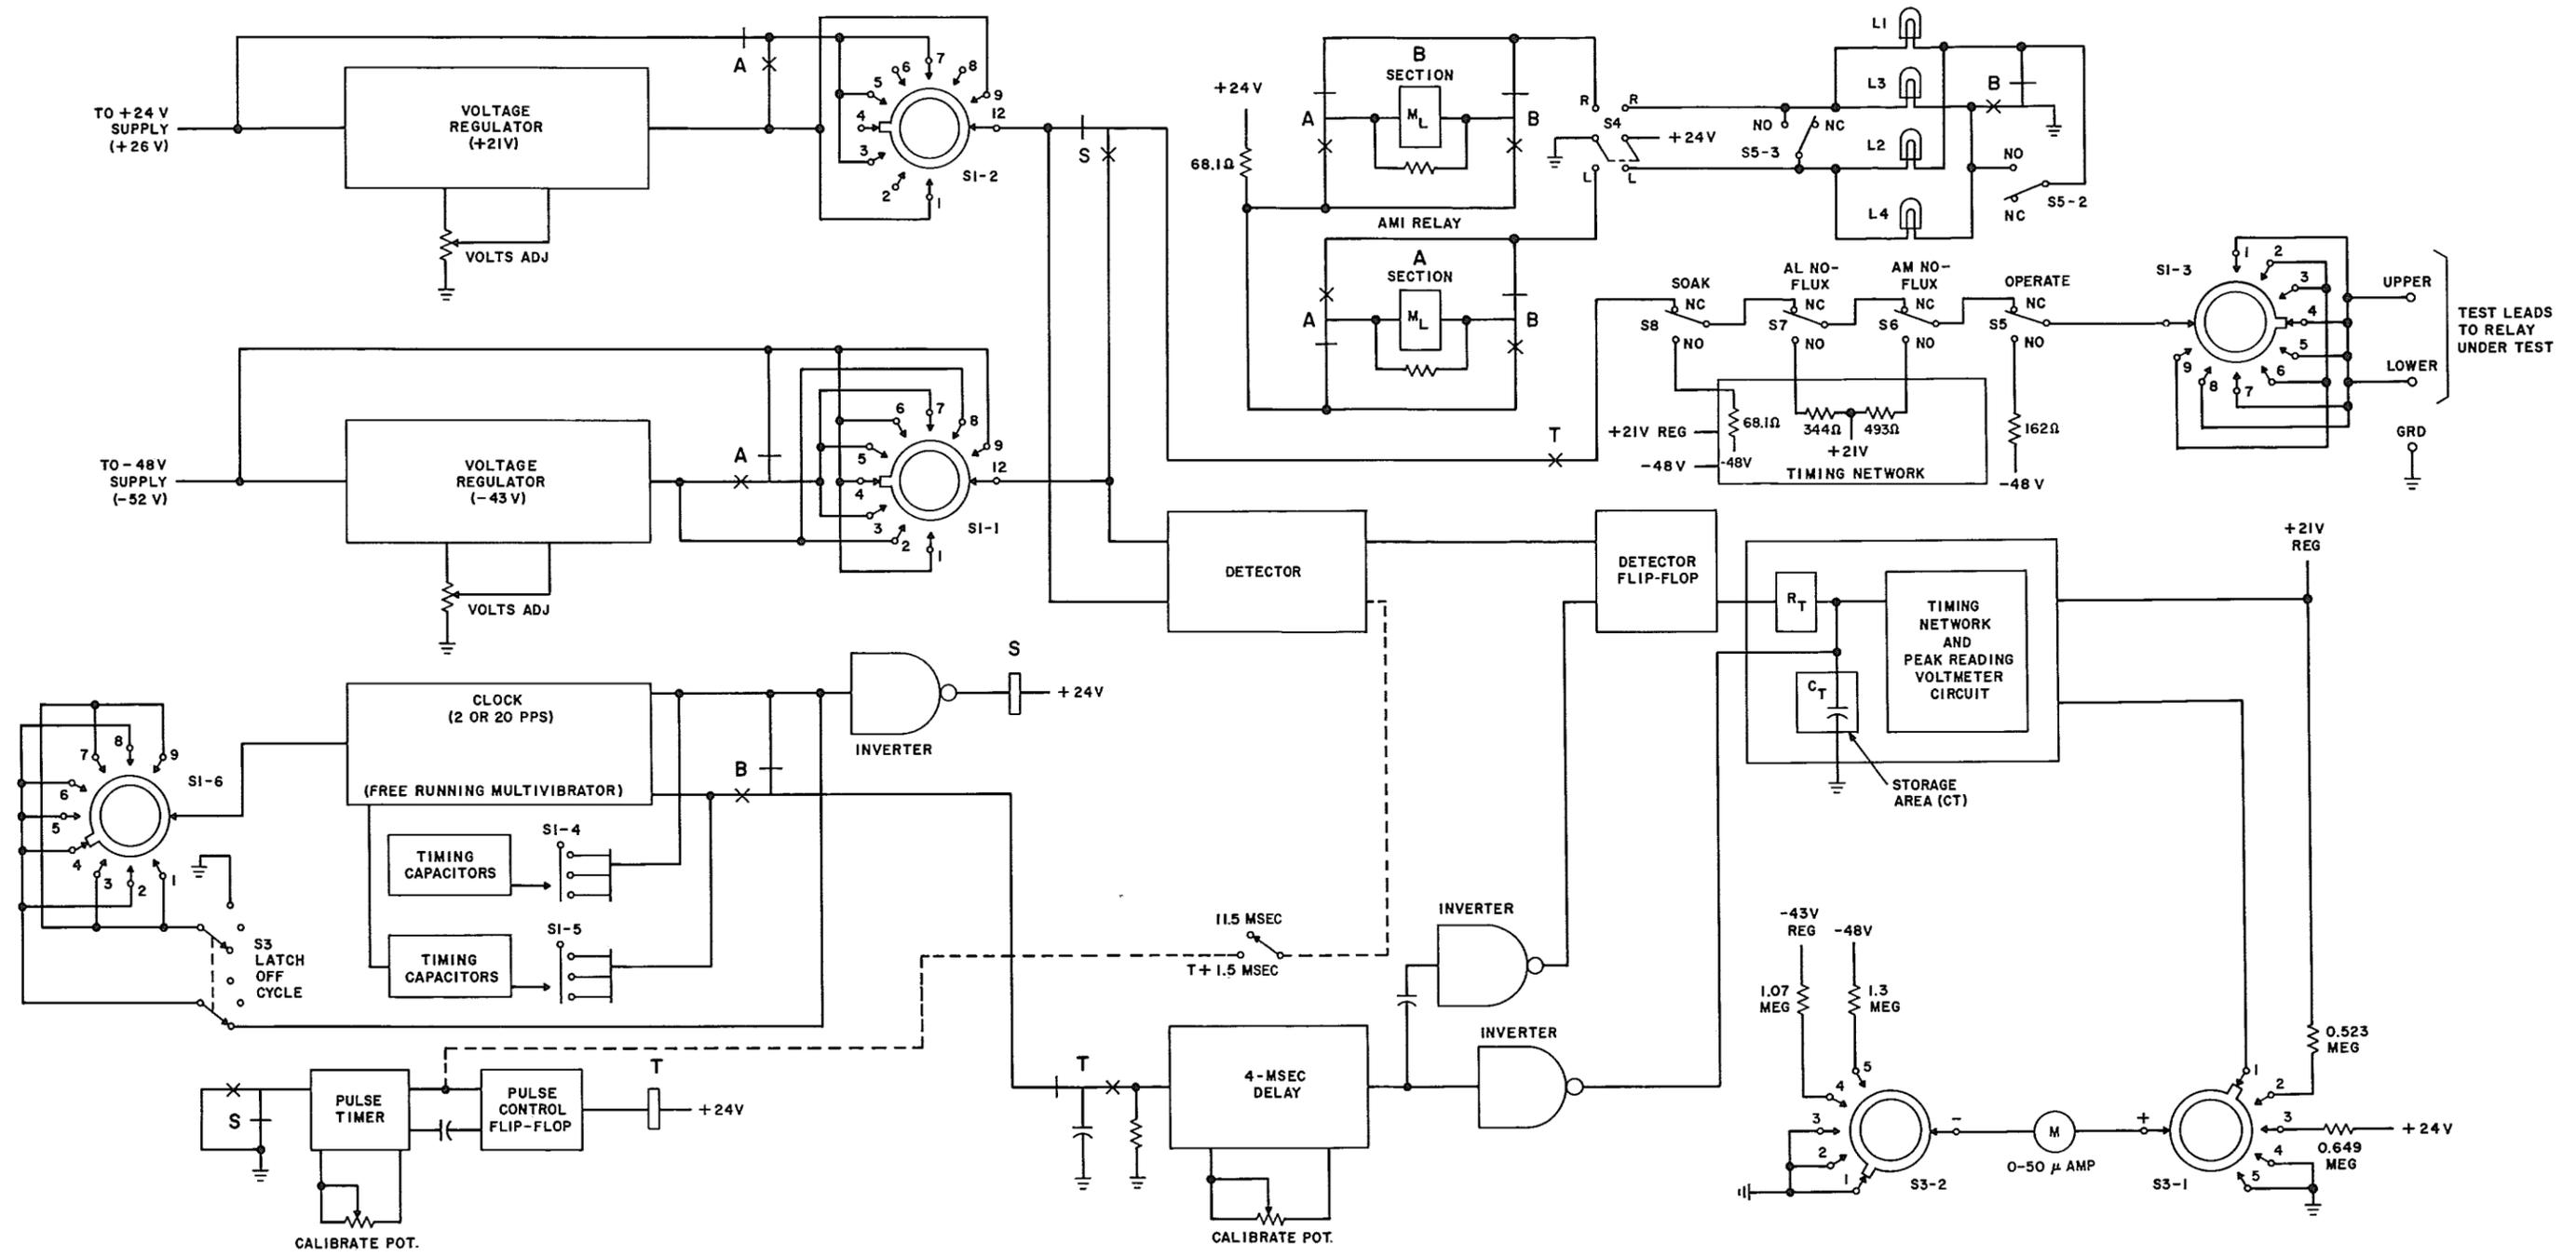

Fig. 5—194735A Magnetic Latching Relay Timing Test Set, Block Diagram
**6.03** Steps to operate the relay under test will start when the clock pulse causes S relay to energize (Waveform 2). At this time, contacts from S relay (Waveform 3) trigger the pulse timer and the path for the application of a regulated -43 volts is made available for the operation of the relay under test. No application of the voltage is made, however, until the pulse timer triggered by S relay operates the T relay (Waveforms 4 and 5). With the operation of the T relay, a path for the operate or release pulse is actually made available to the relay under test causing it to operate. The operation of the T relay triggers the 4-millisecond delay circuit (Fig. 5).
**6.10** There are two voltage combinations used for checking both the operate time and release time of AL- and AM-type ML relays. To begin the cycle of the checks, A and B relays located in the steering circuit are de-energized (Fig. 5). The TEST ADV switch (S4) is in the right position and will illuminate lamp No. 1. (Fig. 2 shows the lamps on the front panel; Fig. 5 shows a block diagram.) Lamp No. 1 is lighted by +24 volts through TEST ADV switch (S4) and normally closed contacts of B relay to ground.